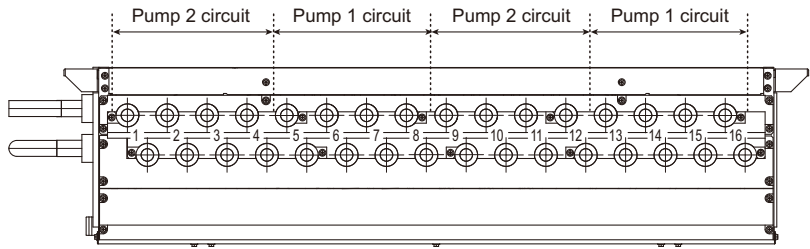

Fig. 11-3-1C
- When the junction pipes are connected to 16 Sub-HBC ports, the branched sides of the junction pipes cannot be connected to the ports "4 and 5," "8 and 9," or "12 and 13" at the same time. (See Fig. 11-3-1C.)